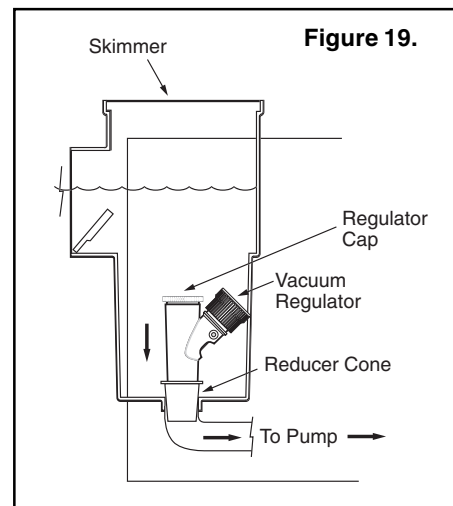

Figure 19.
5. Insert the vacuum regulator and reducer cone in the skimmer, (see Figure 19). To prevent water from flowing through the top of the vacuum regulator, attach the regulator cap to the vacuum regulator.